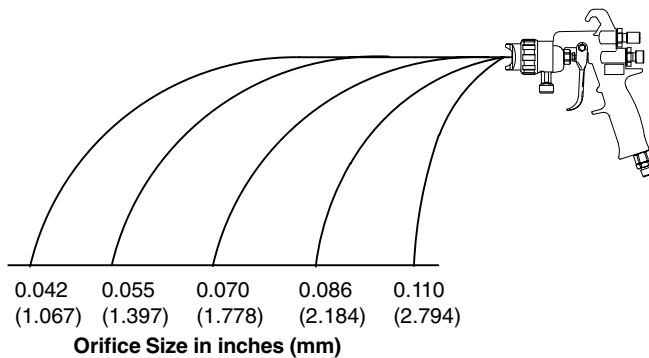

Fig. 10
- J. If after increasing the gun air supply pressure the atomization is still unacceptable, try installing a larger fluid nozzle size to reduce the fluid velocity. Refer to Fig. 10. Repeat steps 6-E to 6-I until you obtain the desired atomization.